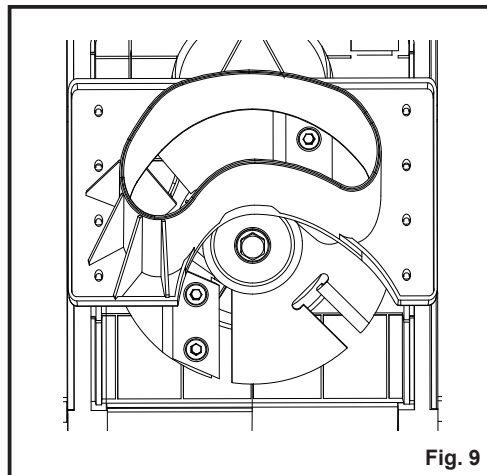

Fig. 9
- Carefully lift up the upper housing cover to expose the two blades (Fig. 9).